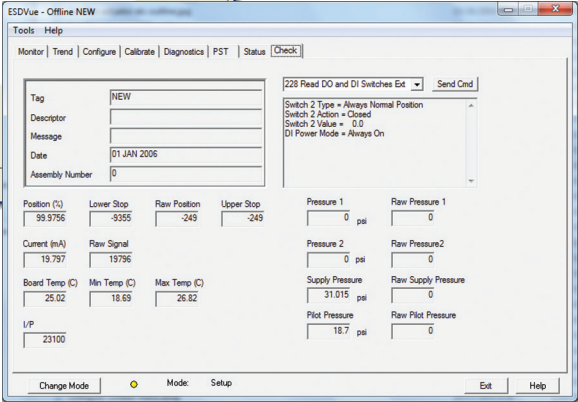

Figure 10 - ValVue ESD for Checking Magnet Position
4. Select the installed ESD PST Controller from the list of Connected Devices as shown in Figure 10 and click Connect.
6. Read Raw Position Data on the Check screen (Figure 10).